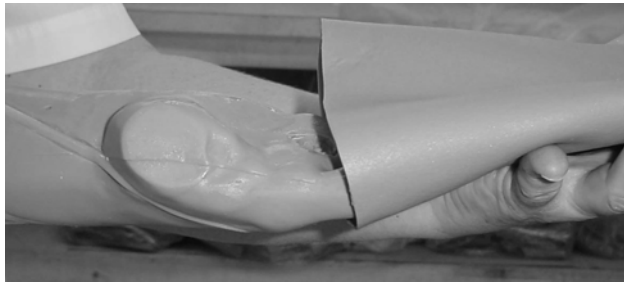

**Fig. 2**
5. Place new veins along grooves, (Figure 2) spot gluing as needed.